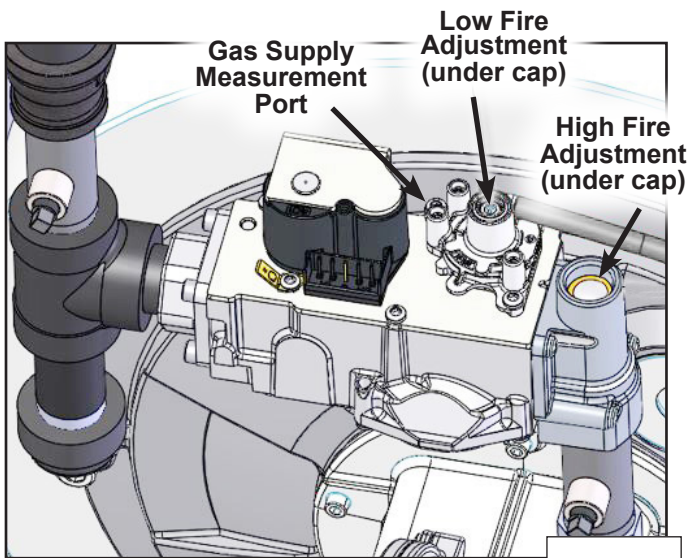
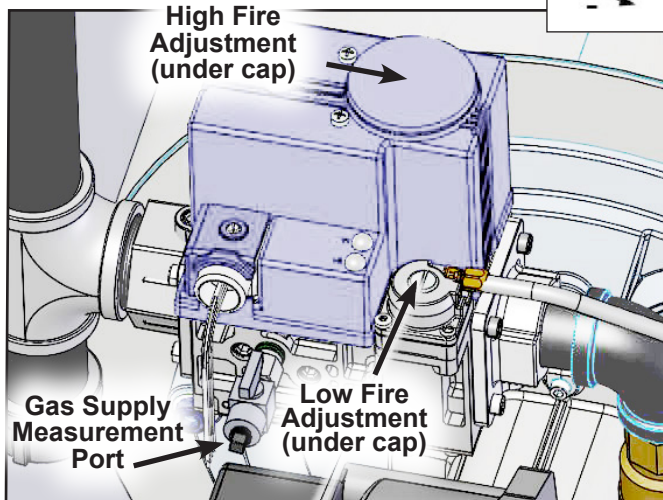

Figure 51. Gas Valve Adjust, 399 - 500
Figure 52. Gas Valve Adjust, 650 - 800
6. Once the unit is firing at 100%, use a 6mm Allen key (399 – 500), a 3mm Allen key (650 – 800), or a flathead screwdriver (999 – 1500) to adjust the high fire adjustment screw on the gas valve to obtain the correct CO2 and CO measurements as shown in Table 28. See Figure 51, Figure 52, and Figure 53 on the next page.
7. While the unit is running at high fire, measure the gas pressure at the gas supply measurement port shown in Figure 51 – Figure 53 on page 101. For models 399 – 500, use a T10 Torx driver to open the port, and for models 650 – 1500 install a 1/8" NPT barbed fitting. Ensure the supply pressure is equal to or greater than 3.5" w.c. If any other appliances share the gas supply line, the pressure must also be checked to ensure it is above 3.5" w.c. with every appliance that shares the supply line operating at maximum capacity. If the gas pressure is greater than 10.5" w.c. turn off the main shut-off gas valve upstream of the unit and, as necessary, adjust or replace the fuel regulating components.
9. Allow the unit to stabilize at low fire. Using a T40 Torx (399 – 800) or a 2.5mm Allen key (999 – 1500), adjust the low fire adjustment screw on the gas valve to obtain the correct CO2 and CO measurements as shown in Table 28. While the unit is running at low fire, check that the gas supply pressure is within the correct range per step 7.